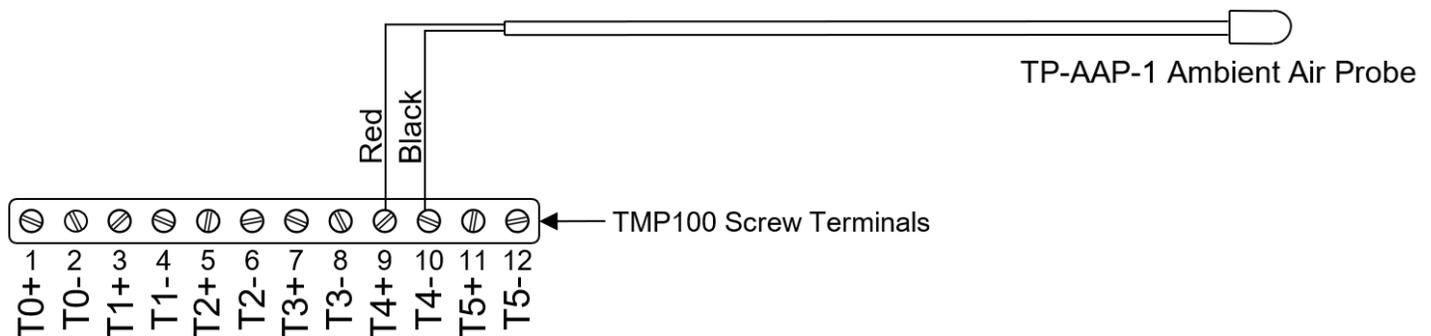

Figure 1 – Wiring Diagram
Please follow these instructions to connect the TP-AAP-1 ambient air temperature probe to the NMEA 2000® network via a Maretron TMP100 Temperature Module. The wiring diagram appears in Figure 1 below. The diagram shows a connection to channel #4, but connections to other channels are similar. Please note that the TP-IP-1 may be connected only to channels #2 - #5. It may not be connected to channels #0 and #1.
2. The TP-AAP-1 cable contains one red and one black wire. Connect the black wire to the appropriate Tx- terminal on the TMP100 as shown in Figure 1 below. Connect the red wire to the appropriate Tx+ terminal on the TMP100 as shown in Figure 1 below.